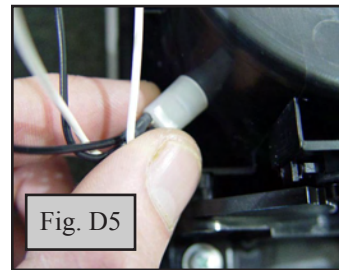

Fig. D5
4. Firmly press LED assembly into lens. (Fig. D5)